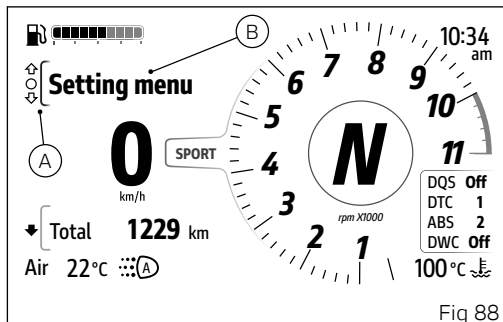

Fig 88
- Select the Interactive Menu (A, Fig 88) by pressing and holding button (1) pressed for a long time.
- Use buttons (1) and (2) to select item "Setting menu" (B, Fig 88) and press the ENTER button (3).